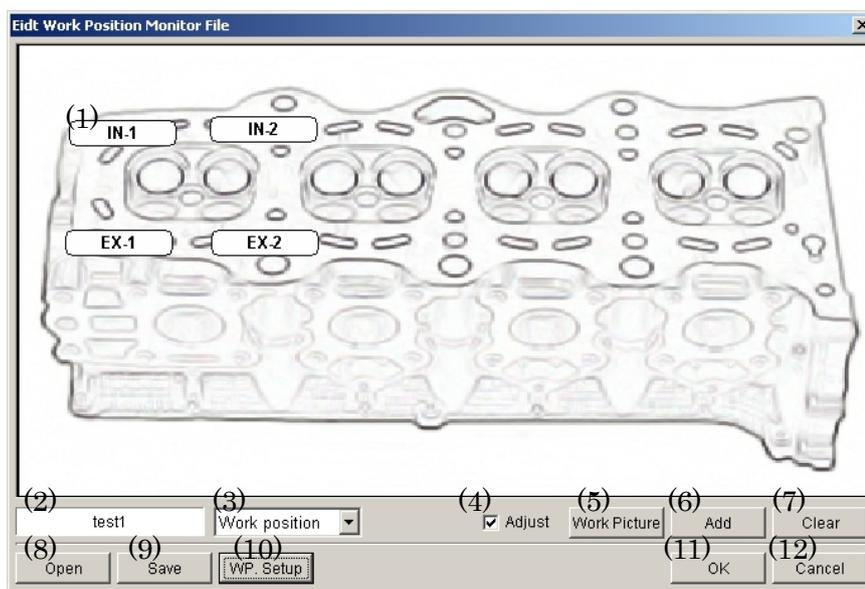

Fig..7-2-16-1 Work Position Monitor File Edit screen
| (1) | Judgment display | It can arrange in arbitrary positions with a drug. A judgment display setting screen is displayed if it is right-clicked. (Fig. 7-2-16-2) |